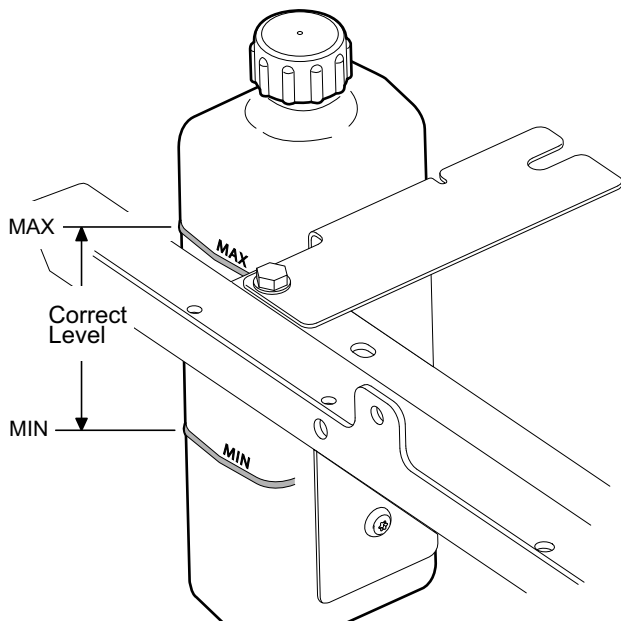

Fig. 2 Coolant Reservoir
1. Verify that the coolant level in the reservoir is between the MIN and MAX lines (Ref. Fig. 2).